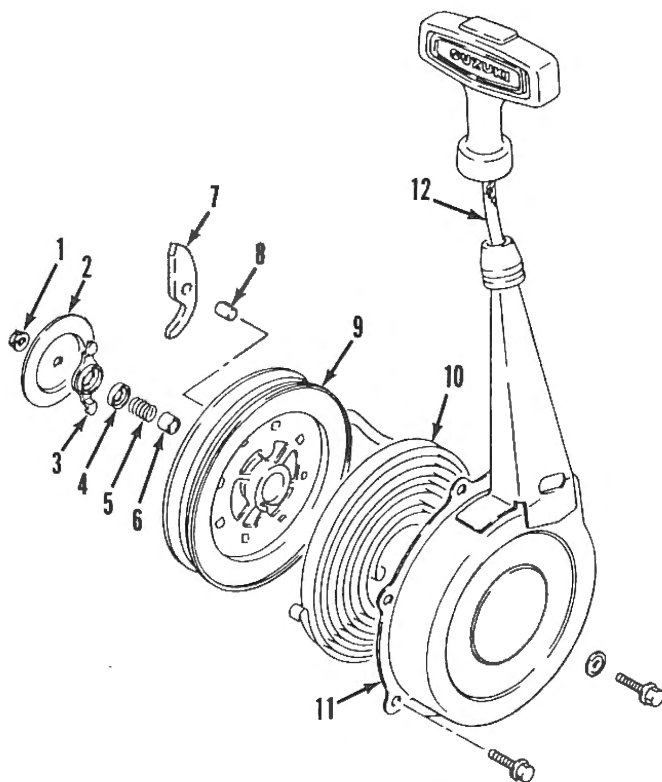

Fig. S13-17—Exploded view of manual starter.
R&R AND OVERHAUL. Refer to Fig. S13-17 for exploded view of manual starter used on all models. Starter may be removed as a complete unit from vehicle after removing six starter housing retaining cap screws. Refer to exploded view and disassemble starter as follows: If starter spring remains under tension, pull starter rope and hold rope pulley (9) with notch in pulley adjacent to rope outlet. Pull rope back through outlet so it engages notch in pulley and allow pulley to slowly unwind. Remove retaining nut (1) and disassemble unit. Be careful when removing rewind spring (10); a rapidly uncoiling starter spring could cause serious injury.